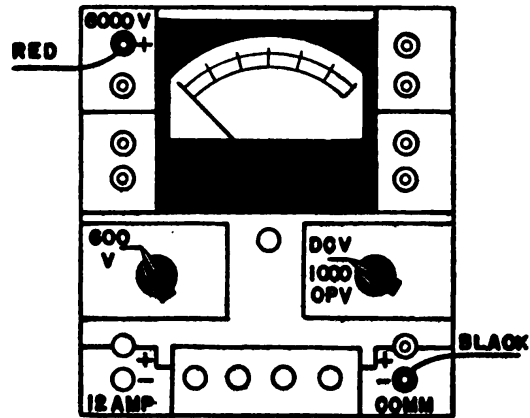
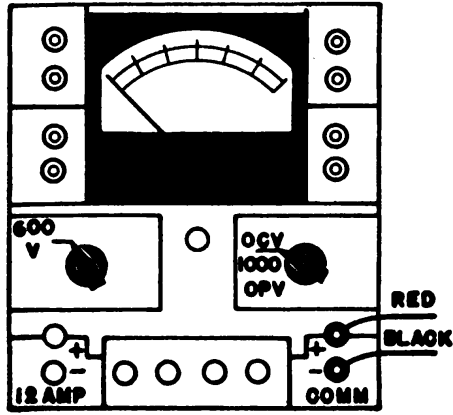

FIG. 5D: 0-1200 V, 0-6000V,
FIG. 6A: 0-3V, 0-12V, 0-60V,
a. When using 0-1,200 volt and 0-6,000 volt d-c ranges at 1,000 ohms-per-volt, see figure 5D and table I for switch positions, meter scales, and jack connections, and proceed as follows:
- (1) Observe the cautions for voltage measurements, particularly the high-voltage precautions.
- (2) Set the circuit selector switch to D.C.V. 1,000 O.P.V. position.
- (3) Set the range selector switch to 600 V. position.
- (4) Insert the black test lead into the —COMMON tip jack and the red test lead into either the +1,200 V. or +6,000 V. tip jack, depending upon the range desired.
- (5) For the 0-1,200 volt range, multiply reading on the black 0-12 d-c scale by 100.
- (6) For the 6,000 volt range, multiply the reading on the black 0-60 d-c scale by 100.
b. When using 0-3, 0-12, 0-60, 0-300, or 0-600 volt ranges at 1,000 ohms-per-volt, see figure 6A and table I for switch positions, meter scales, and jack connections, and proceed as follows:
- (1) Observe the cautions given for voltage measurements.
- (3) Set the range selector switch as follows:
- (4) Insert the black test lead into the —COMMON tip jack and the red test lead into the +tip jack.
- (5) Read as follows: